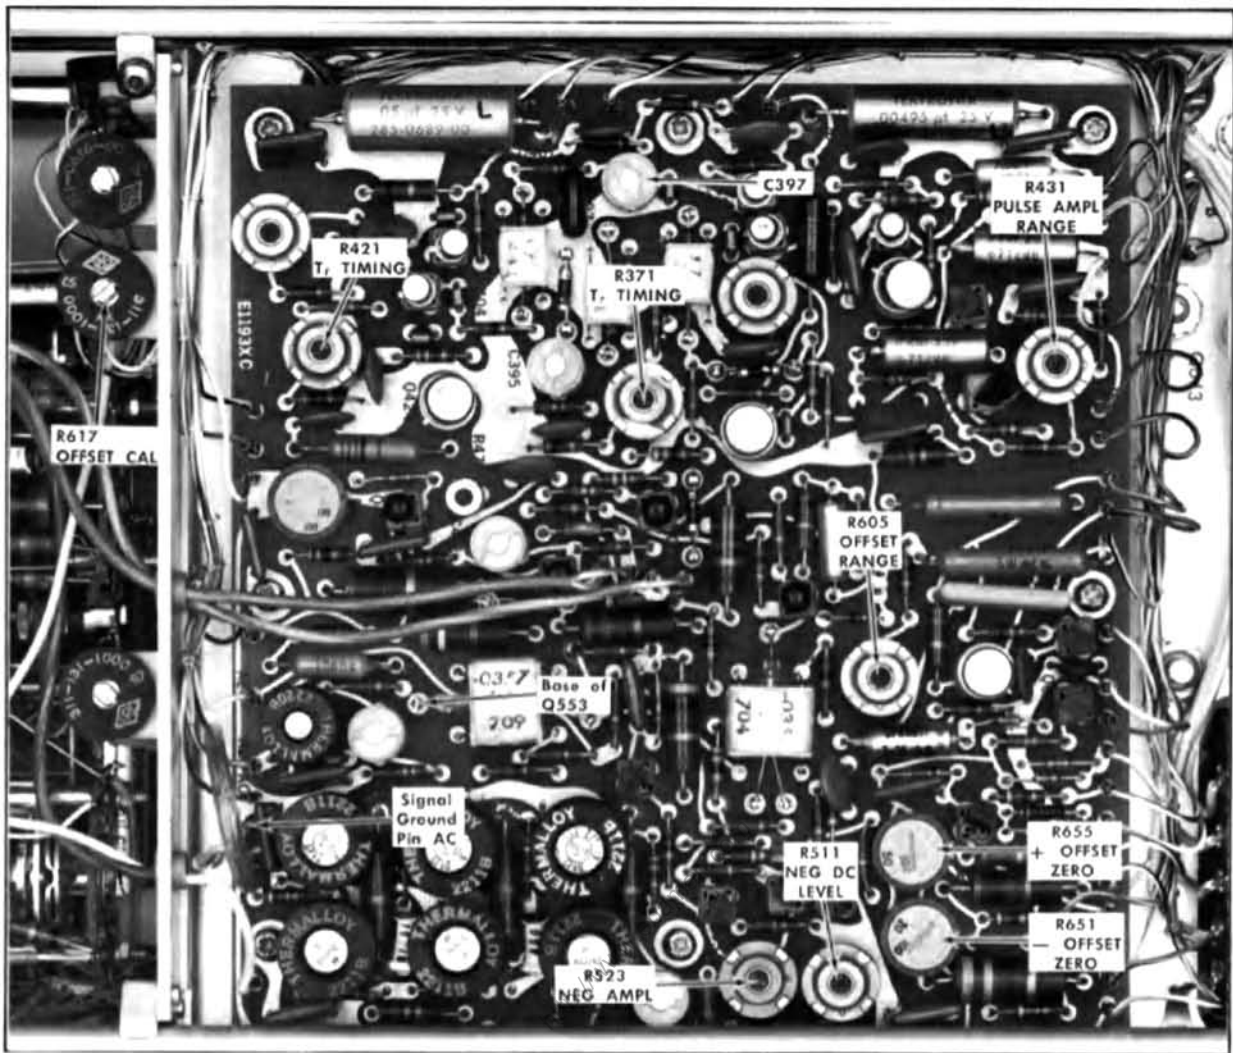

Fig. 5-8. Bottom circuit board: Location of adjustments in steps 9 through 15.
- ADJUST—R605, OFFSET RANGE adjustment, (see Fig. 5-8) if the pulse baseline is not correct.
- ADJUST—R655, + OFFSET ZERO adjustment, (see Fig. 5-8) if the baseline level is not correct.
c. ADJUST—R431, PULSE AMPL RANGE adjustment, (see Fig. 5-8) for a pulse amplitude of 10 volts.
d. ADJUST—R523, NEG AMPL adjustment, (see Fig. 5-8) for an amplitude of the negative-going pulse of 10 volts.
- i. Connect the Channel 2 probe tip to signal ground (see Fig. 5-8).
- j. Connect the Channel 1 probe tip to the base of Q553 (see Fig. 5-8).
- n. ADJUST—R511 NEG DC LEVEL adjustment, (see Fig. 5-8) if the display is not correct.
v. ADJUST—R651, — OFFSET ZERO adjustment (see Fig. 5-8) if the zero offset is not correct.